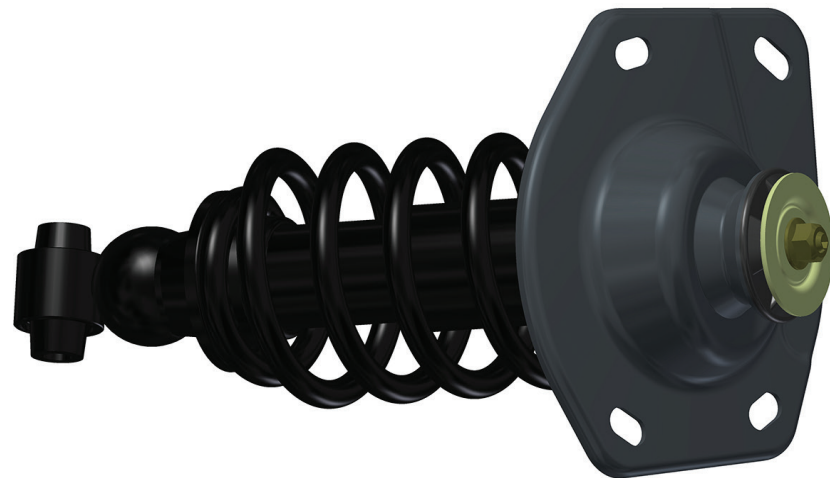

fig. 5
1. The upper bracket will need to be removed from the shock assembly (fig. 5). Follow the factory recommendations for shock/spring/bracket disassembly.